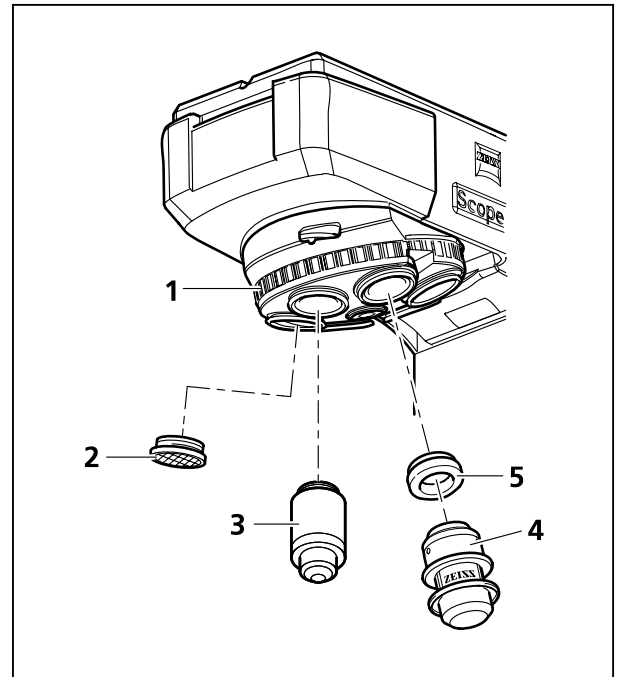

Fig. 3-6 Mounting objectives
- Remove the dust protection caps (Fig. 3-6/2) from the appropriate nosepiece openings.
- Take the objective (Fig. 3-6/3) out of its box and mount it to the nosepiece (Fig. 3-6/1), starting with the smallest zoom factor (set up clockwise).
- Instead of a objective, you may mount an object marker (Fig. 3-6/4) to any position of the nosepiece with the aid of an adapter ring W0,8/M27 (Fig. 3-6/5). Don't forget to recap the object marker when not in use in order to prevent it from drying out.